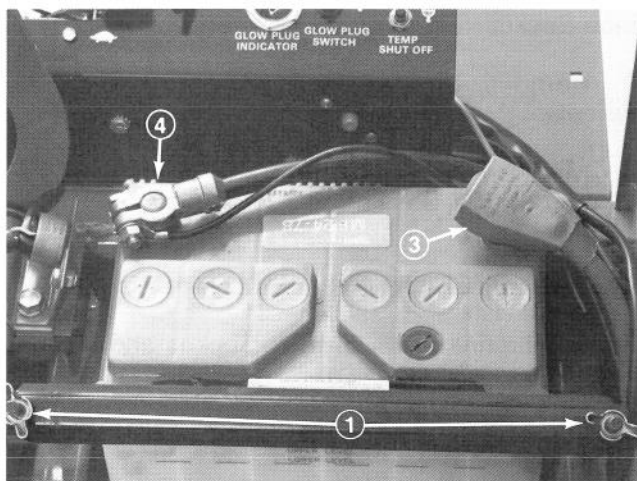
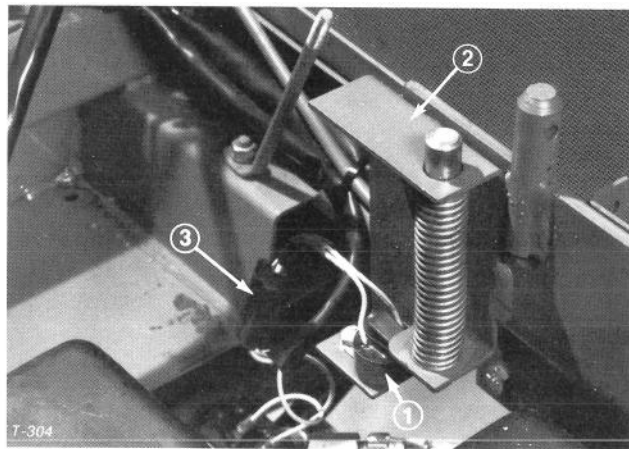

Figure 5
Figure 6
2. Remove two wing nuts and the hold down strap that secure battery and seat switch in place (Fig. 5). Lift battery out of Chassis. Keep wing nuts and hold down strap in a safe place for later use.
2. Mount seat support bracket to frame (Fig. 6).
3. Remove the seat switch from shipping bracket (Fig. 5) and mount to seat support bracket using same fasteners (Fig. 6). Connect switch connector to main wire harness connector (Fig. 6).
3. Remove seat switch from shipping bracket and mount to seat support bracket using same fasteners (Fig. 6). Connect switch connector to main wire harness connector (Fig. 6).
1. Install battery and secure with hold down strap and wing nuts (Fig. 5). Remove tape over ends of each cable.
2. Slide the red, positive battery cable (Fig. 5) onto positive battery post and tighten nut securely.
3. Slide the black, negative battery cable (Fig. 5) onto negative battery post and tighten nut securely.
4. Coat both battery connections with either Grafo 112X (skin-over) grease, Toro Part No. 505-47, petroleum jelly or light grease to prevent corrosion and slide rubber boot over positive terminal (Fig. 5).